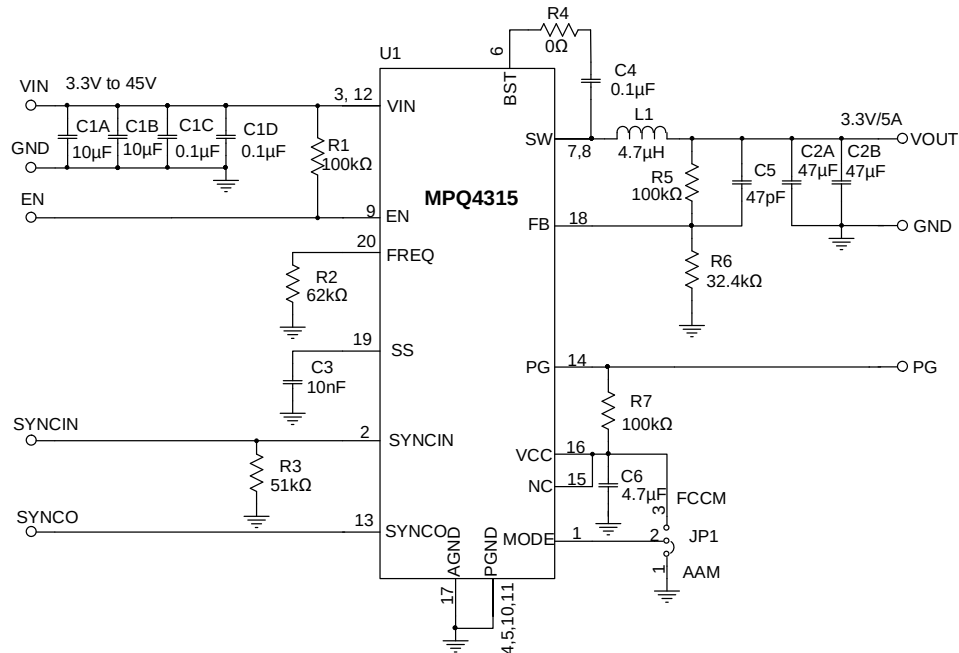

Figure 11: Typical Application Circuit ( $V_{OUT} = 3.3V$ ,  $f_{SW} = 470kHz$ )
- 9) The recommended PCB layout is based on Figure 11.